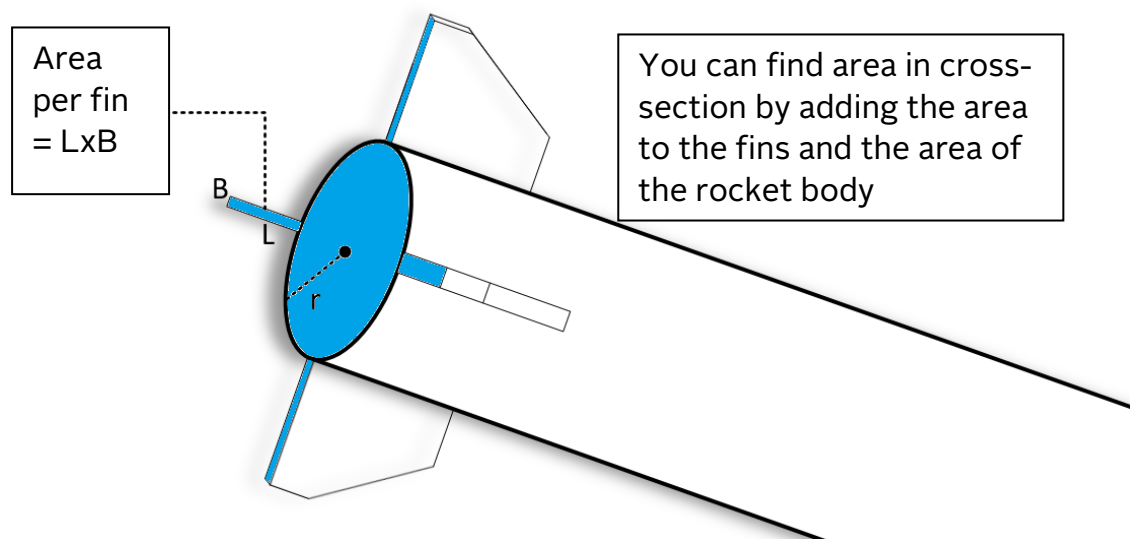

Figure 1: How to determine the frontal area
E. Determine the rocket frontal area, A (see figure 1). Remember that your rocket has only 3 fins, not 4 as shown in the figure. Use the unit of centimetre and give your answer in cm^2 .